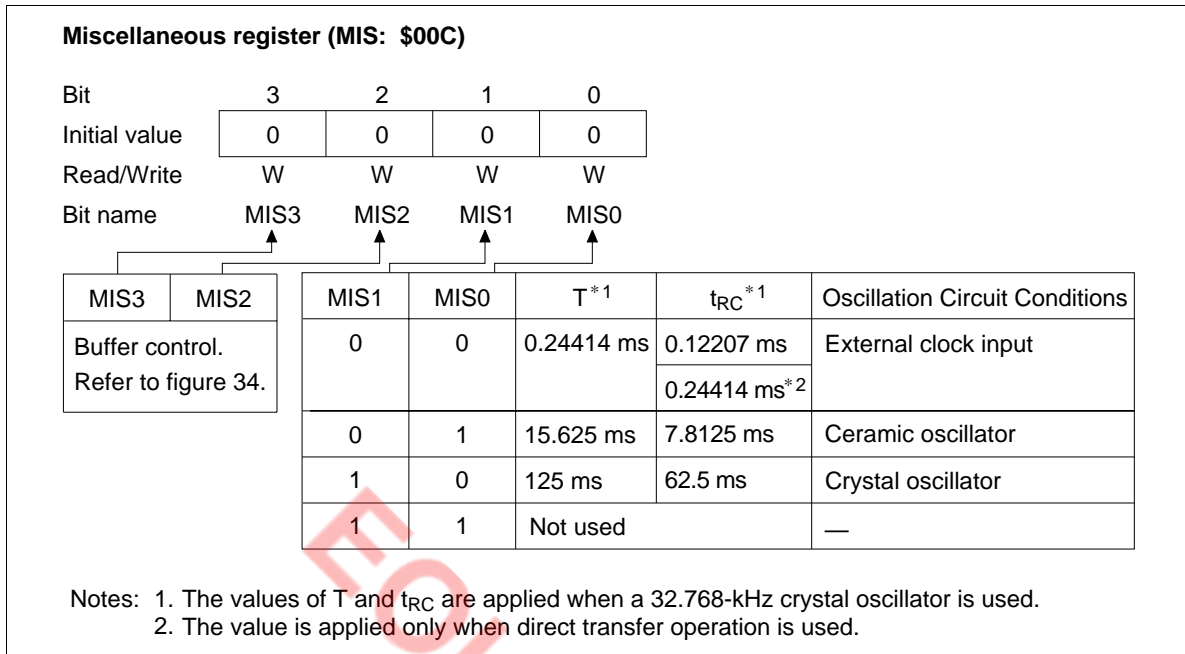

Figure 15 Miscellaneous Register (MIS)
**Interrupt Frame:** In watch and subactive modes,  $\phi_{CLK}$  is applied to timer A and the  $\overline{\text{INT}}_0$  circuit. Prescaler W and timer A operate as the time-base and generate the timing clock for the interrupt frame. Three interrupt frame lengths (T) can be selected by setting the miscellaneous register (MIS: \$00C) (figure 15).